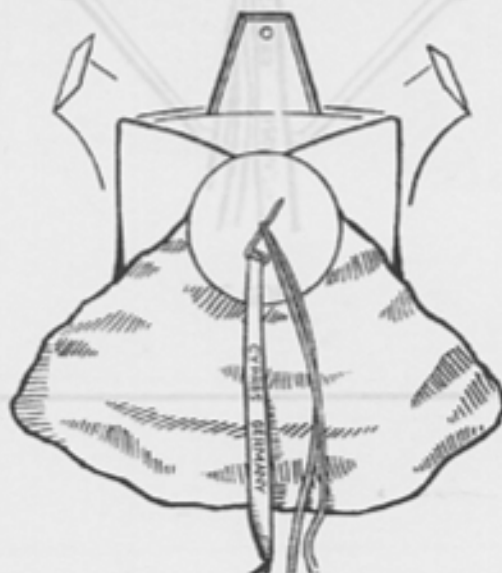

FIG. 8
- 11) Roll or fold the pilot chute fabric at the top of the pilot chute parallel with the top of the container, and push this roll under the top plate of the pilot chute. Draw the rest of the pilot chute fabric down the sides of the pilot chute top plate pushing the excess fabric under the pilot chute top plate as you go (FIG. 8).